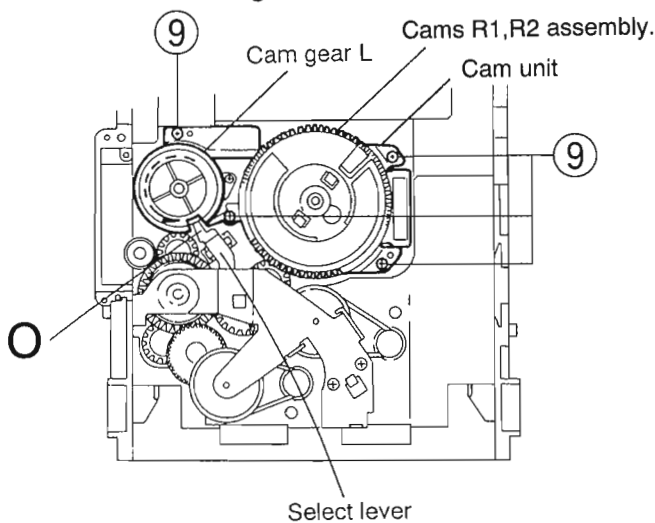

Fig.3-52
4. While turning the cam gear L, align the pawl "O" position of the select lever to the notch position (Fig.3-52) on the cam gear L.
5. Remove the four screws ⑨ retaining the cam unit (cam gear L and cams R1/R2 assembly) (See Fig.3-52).